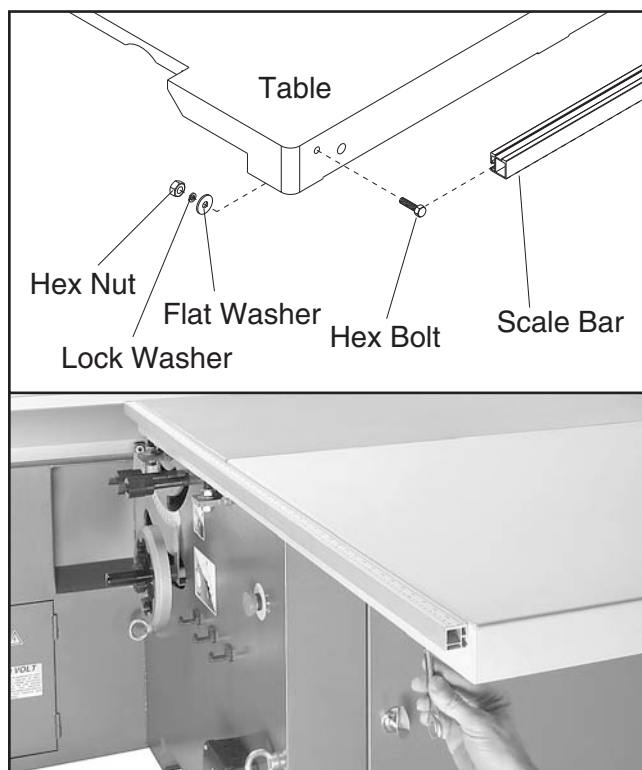

Figure 27. Attaching the scale bar.
10. Mount the scale bar to the cast iron table and large extension table, making sure it is even with the top of the tables. Use the three M6-1 x 25 hex bolts, three 6mm flat washers, three 6mm lock washers, and three M6-1 hex nuts, as shown in **Figure 27**, to mount it. (The top of the hex bolts slide into the scale bar.)